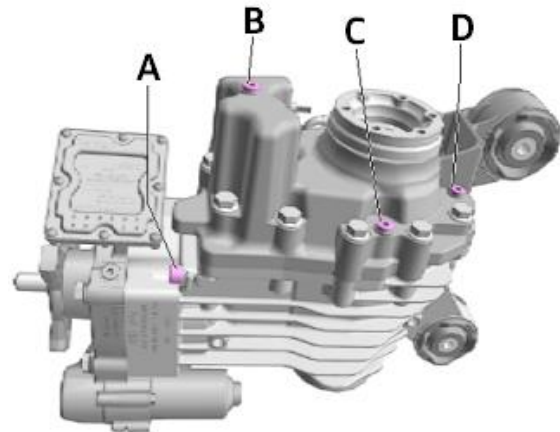

Figure 1. Drain plug for BorgWarner clutch oil (A), oil filler plug for BorgWarner clutch oil (B), gear oil drain plug (C), oil filler plug for gear oil (D).
- The image on the right (Figure 1) shows the correct drain and fill plugs.